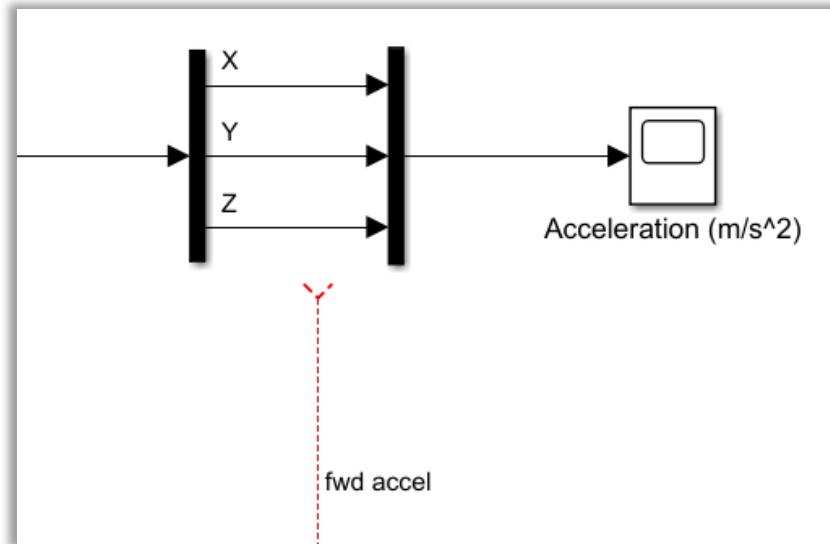

Figure 4: Connecting forward acceleration
- Stop the models. Complete the connection shown in Figure 4 to route the forward acceleration to an integrator block, which is connected to the **accelFwdSpd** block that routes the signal to the Forward Speed Estimate scope.